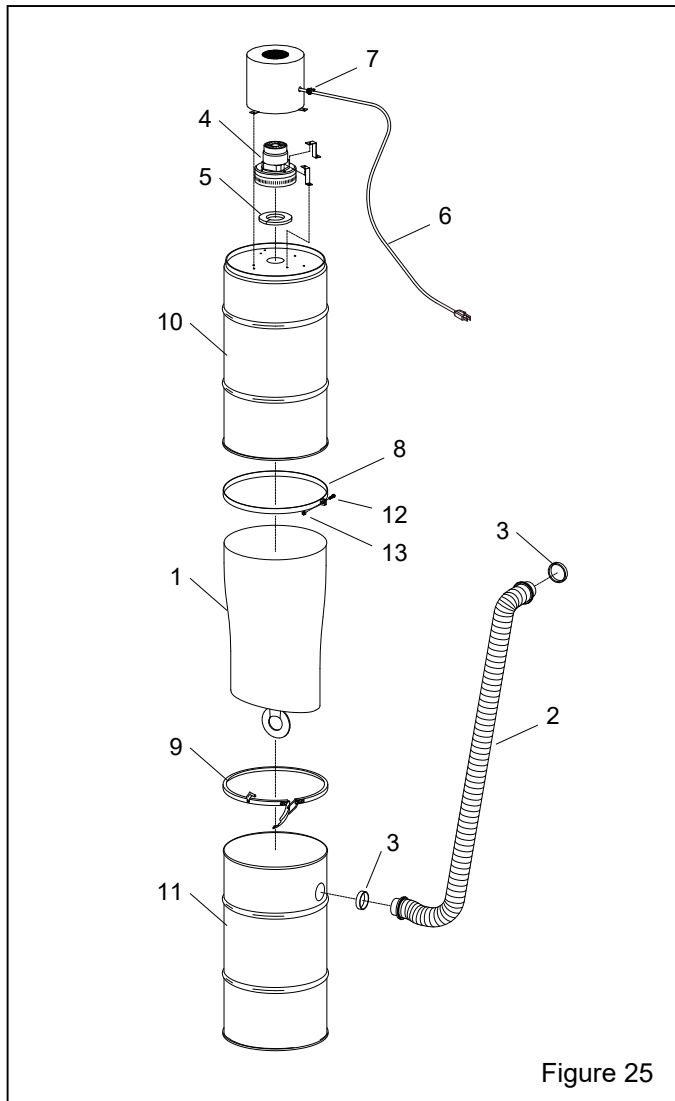

Figure 25
11.5 Dust Collector and Accessories, Figure 25